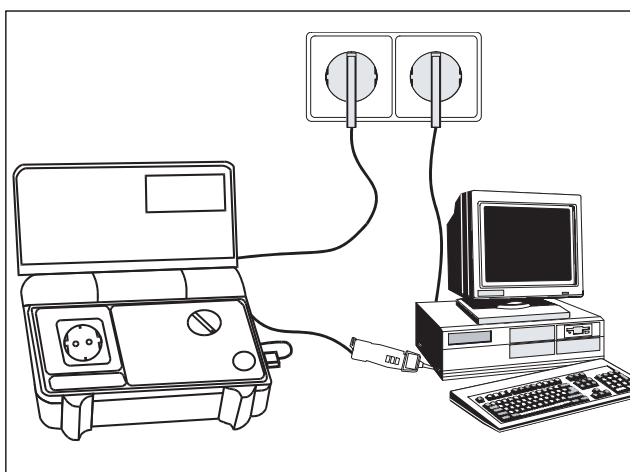

Fig. 7.35
- Scan all touchable, conductible UUT parts by means of COMMANDER 1 (Fig. 7.35).